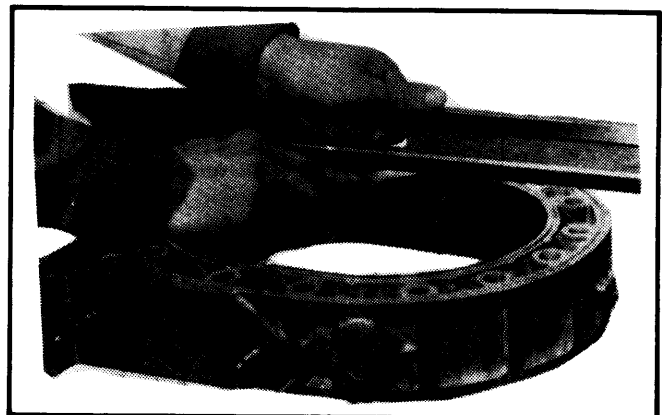

Fig. 9 Measuring Rotor Housing for Distortion
3) Place a straightedge across sealing surface of rotor housing and check for distortion, using a feeler gauge. If distortion exceeds .0016" (.04 mm), replace housing. See Fig. 9.